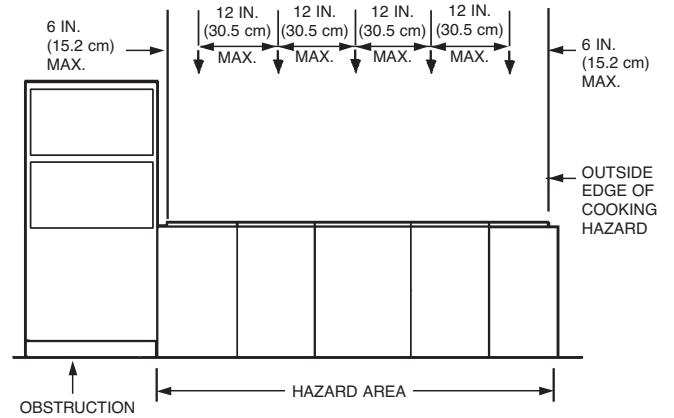

FIGURE 91f
2. When obstructions are located adjacent to appliance(s) protected by overlapping nozzles, the overlapping appliance nozzle spacing must start with the appliance(s) adjacent to the obstruction. See Figure 91f.